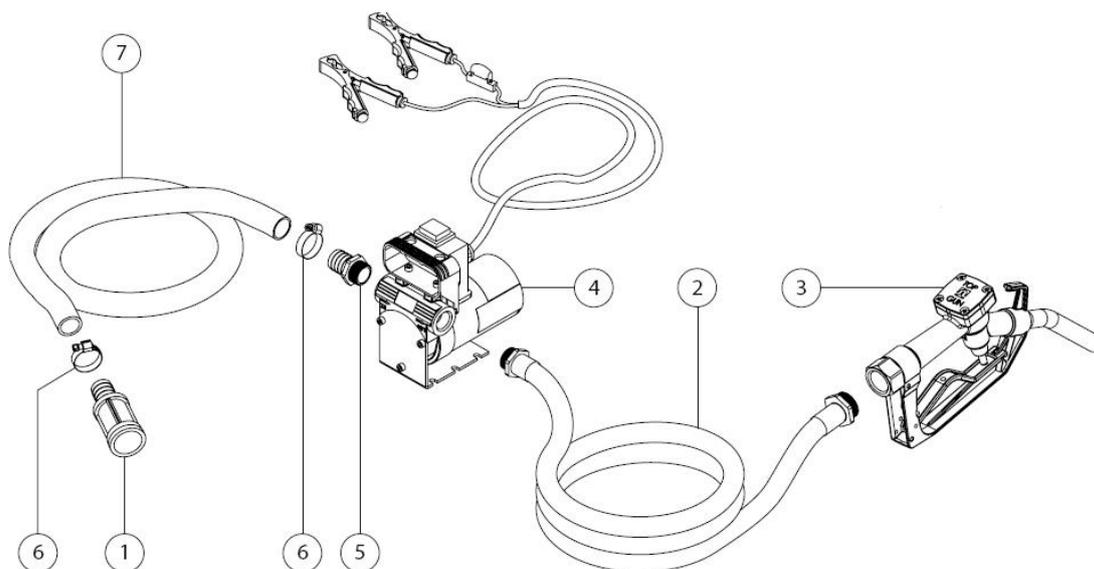

Figure 7 ECOKIT 1 12/24 - 40
3. Assemble model ECOKIT 1 12/24 – 40 as shown in Figure 7 (page 4).
ECOKIT 1 12/24 – 40 (FIG 7)